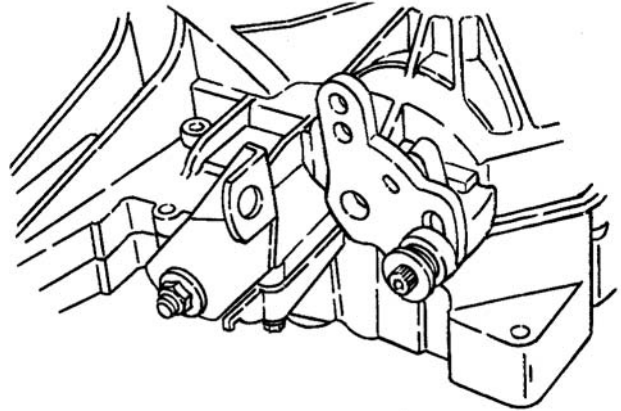

Figure 6-41. Brake Arm and Control Arm
3. Inspect brake for proper operation. If brake fails to stop vehicle or hold on a 30% slope, adjustments are necessary. You should also make sure it fully disengages when the pedal is released. See Figure 6-41.